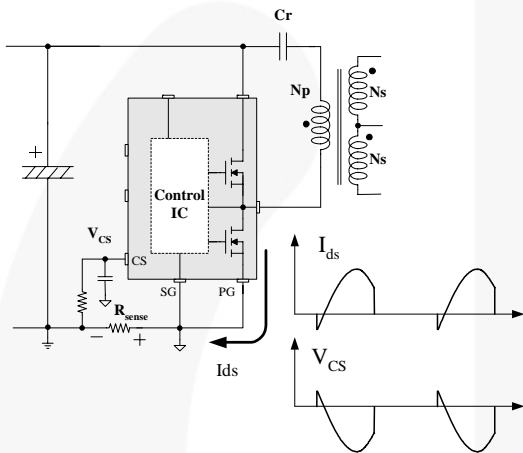
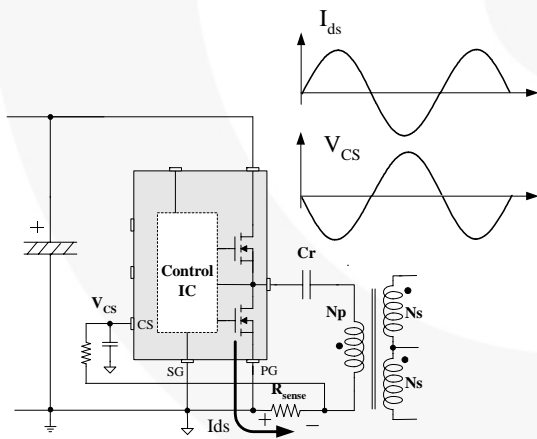

Figure 23. Half-Wave Sensing
Figure 24. Full-Wave Sensing
**6. Current Sensing Using a Resistor:** FLS-XS series senses drain current as a negative voltage, as shown in Figure 23 and Figure 24. Half-wave sensing allows low power dissipation in the sensing resistor; while full-wave sensing has less switching noise in the sensing signal.